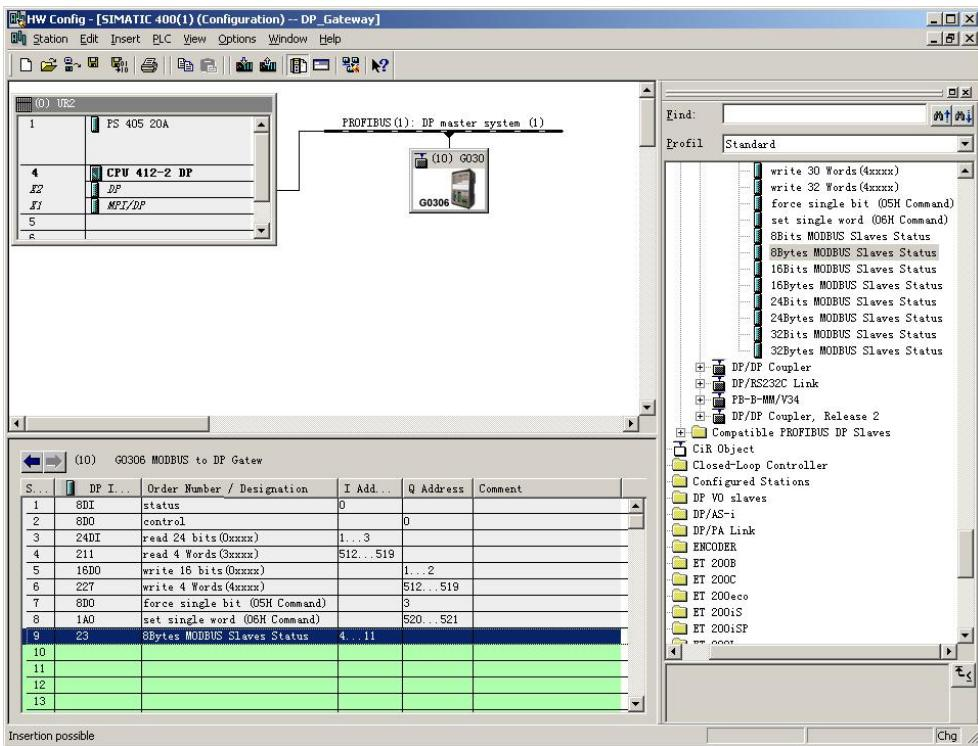

Figure 38 Add “8Bits MODBUS Slaves Status” Module
- b) Add “8Bits MODBUS Slaves Status” Module, shown in Figure 38: